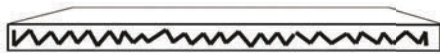

Figure 2
- 5) Place the bench legs into place and apply pressure holding in position while squeezing out any excess silicone and wipe away any excess. Next, apply silicone to the edges of the bench top (Figure 2) and to the top of each bench leg. Place into position, again applying pressure to squeeze out excess silicone. Wipe clean and allow to dry. To assist the bench top to adhering to the legs you can add some evenly dispersed weight to the bench top to hold it down until it fully dries. *For additional security, you may screw the bench seat to your studs.*